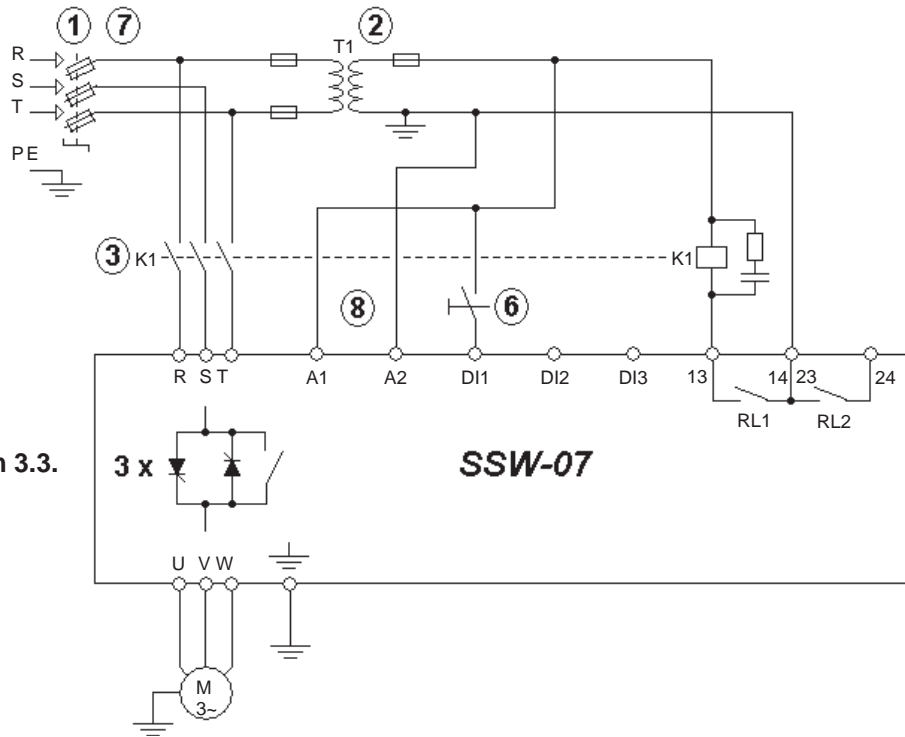

Figure 3.10 - Recommended set-up with commands via two-wire digital inputs and isolation contactor
3.2.4.3 Recommended Contactors When the SSW07 is used in applications that require an isolator contactor, according to the figure 3.10 (K1), the use of WEG contactors is recommended.